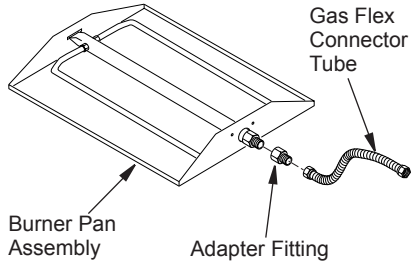

Figure 7 - Connecting Gas to Appliance
3. Install adapter fitting onto burner inlet fitting using thread sealant on male threads of burner inlet fitting (see Figure 7). Adjust to most convenient position.